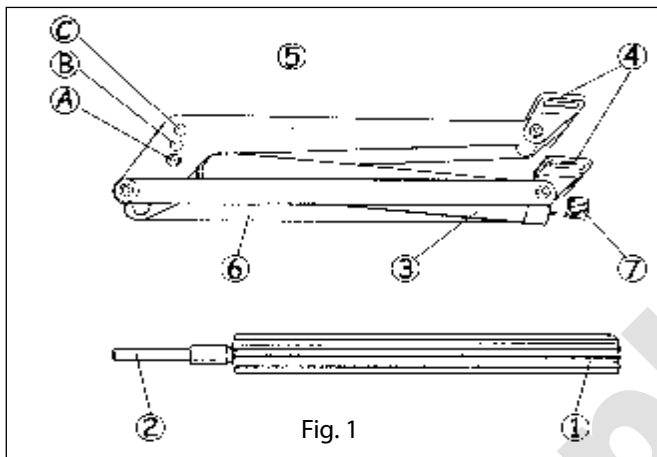

Fig. 1
COMPONENTS: (see fig. 1)
- pos. A = 48 cm lifting 15 kg see fig. 1
pos. B = 40 cm lifting 22 kg see fig. 1
pos. C = 30 cm lifting 30 kg see fig. 1